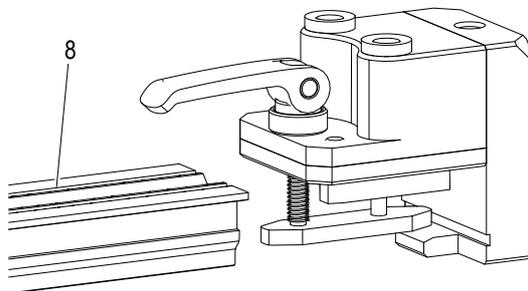

Fig. 105: Position data rail (8)
→ Drill the 4 holes (5) into the data rail. The drill holes are deburred during the drilling process (see Fig. 105).